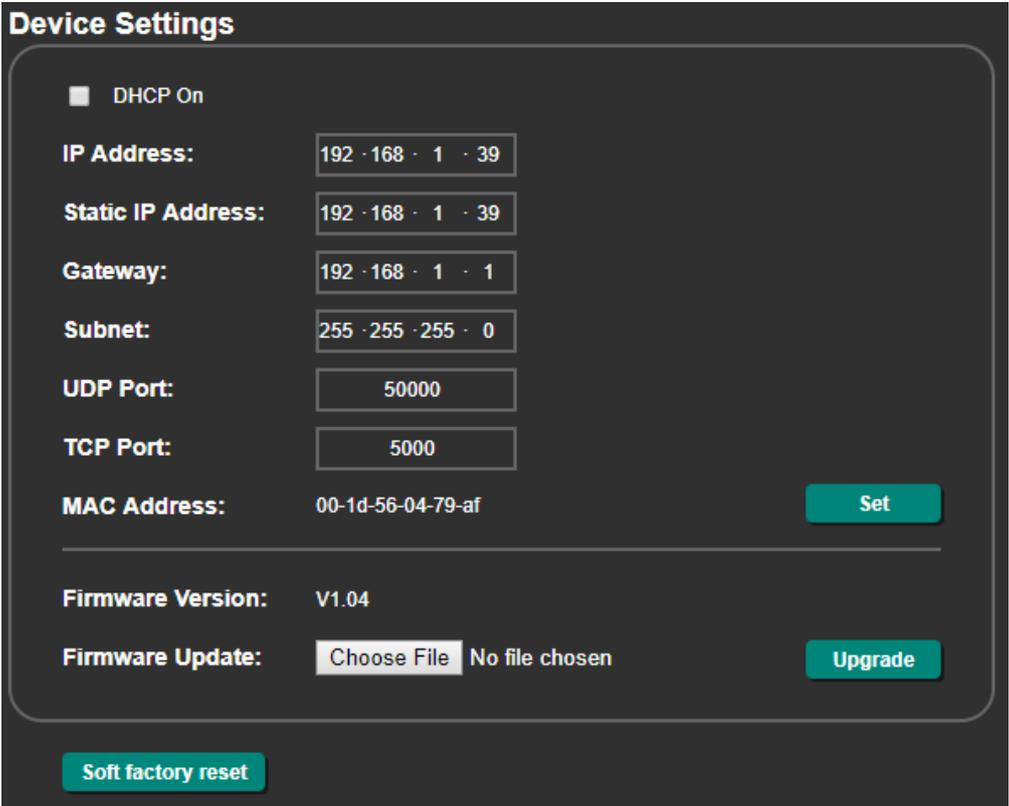

Figure 55: Device Settings Page
1. In the Navigation pane, click **Device Settings**. The Device Settings page appears (see Figure 55).